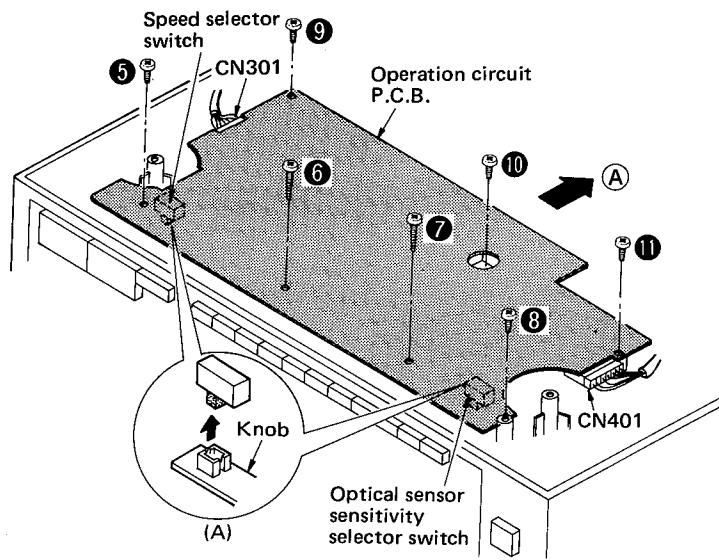

Fig. 3
2. Remove the 7 setscrews (Fig. 3 : ⑤ ~ ⑪) of the printed circuit board.
3. Remove the optical sensor sensitivity selector switch and speed selector switch from the knob. (Fig. 3-A)